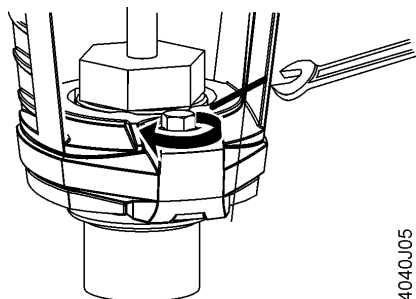

Figure 7.
5. Tighten the U-bracket bolt using a 10 mm wrench (or 4 mm Allen wrench) to 5 Nm (44 in-lbs) torque. See Figure 7.